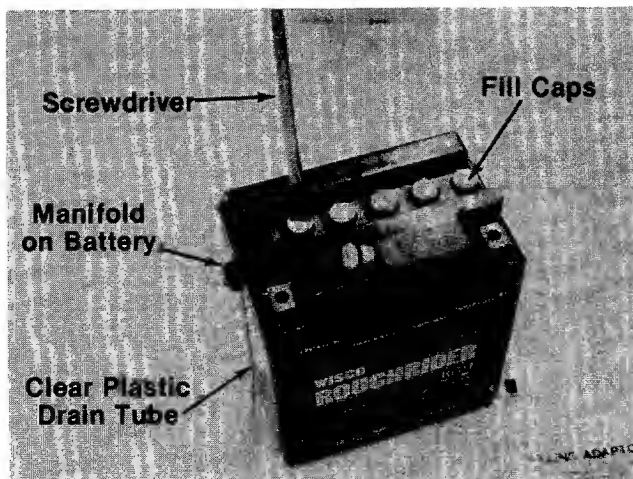

FIGURE 3.
- ← 3. Place one end of clear plastic drain tube on manifold of battery. See figure 3.
- 4. Remove the six fill caps from the top of the battery with a screwdriver. Care should be taken not to damage the fill caps. See figure 3.